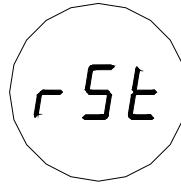

Figure 11: Relay Reset
- The relays can be reset by using a magnet. To do this, place the magnet over the GM logo on the cover of the unit. After 3 seconds, the display shows “rSt”. After the LED displayed this code, remove the magnet. The relays are now reset (Figure 11).